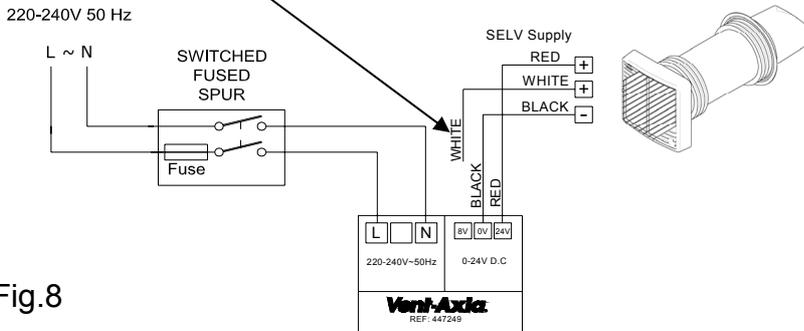

Fig.8
- High speed / Off – Disconnect White (Fig.8)